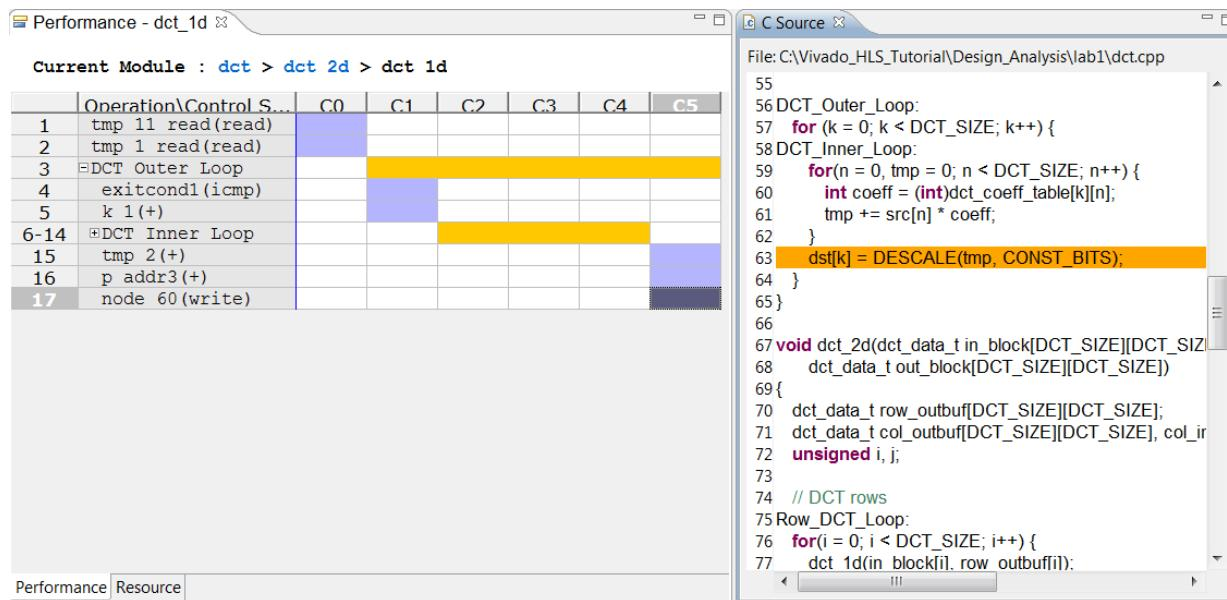

Figure 6-19: DCT Solution2 dct_1d Performance View
11. In the **Performance** view, click loops `DCT_Outer_Loop` and `DCT_Inner_Loop` to view the loop hierarchy (Figure 6-19).
Figure 6-19 shows that this loop was not flattened because additional operations outside of `DCT_Inner_Loop`, at the level of `DCT_Outer_Loop`, prevented loop flattening. One of the operations that prevented loop flattening is highlighted in Figure 6-19, below.